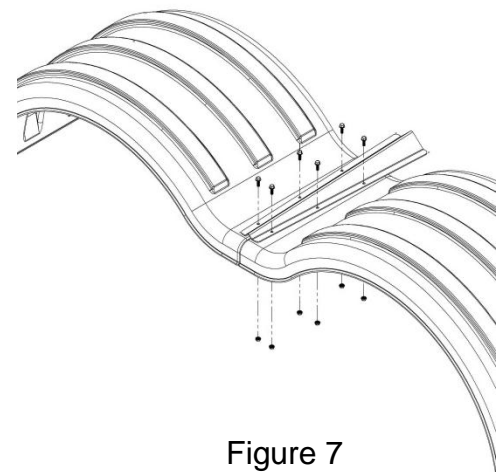

Figure 7
- D. Mount the center bracket so that it is directly over the seam where the fenders join together (Figure 7).